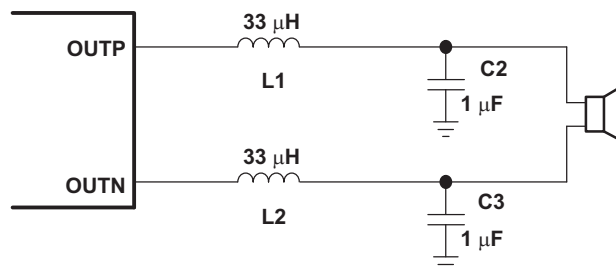
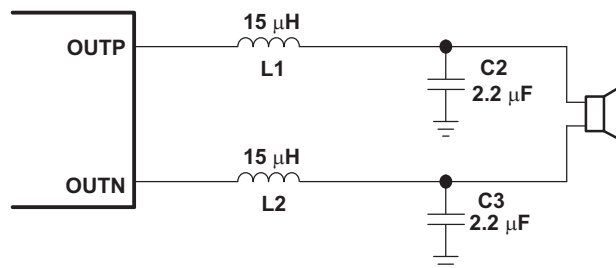

Figure 27. Typical LC Output Filter, Cutoff Frequency of 27 kHz, Speaker Impedance = 8 Ω
Figure 28. Typical LC Output Filter, Cutoff Frequency of 27 kHz, Speaker Impedance = 6 Ω
- Output filter—The ferrite EMI filter (Figure 29) should be placed as close to the output pins as possible for the best EMI performance. The LC filter (Figure 27 and Figure 28) should be placed close to the outputs. The capacitors used in both the ferrite and LC filters should be grounded to power ground.